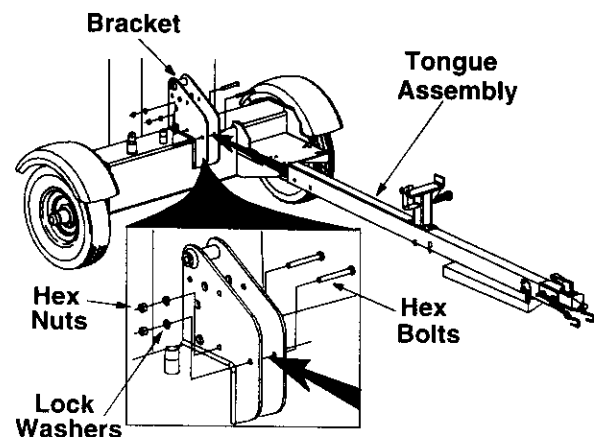

Figure 3
- Place the end of the tongue assembly in between the brackets on the wheel and reservoir tank assembly. Secure with hardware removed earlier. See Figure 3.